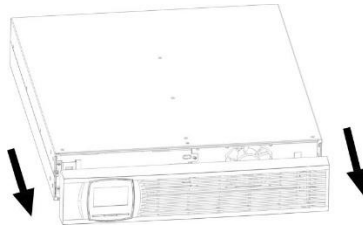

Figure 24: Removing the frontpanel
1. Remove the front panel (see Figure 24). To do this pull it to the frontside of the UPS-system.